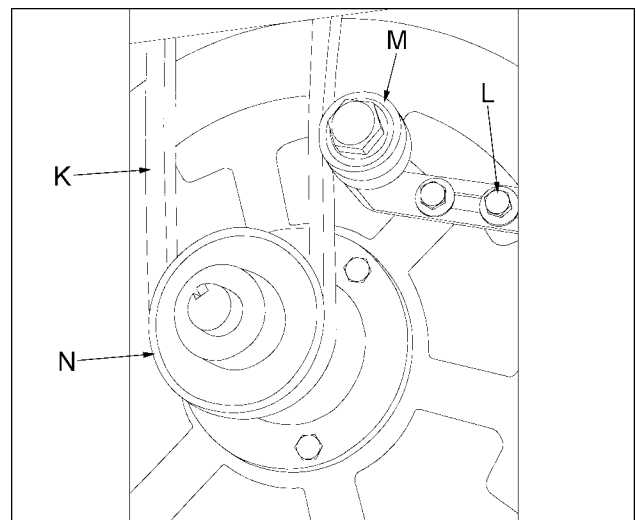

Fig. 3
5. Open the door in the cabinet to gain access to the belt. Make sure the belt (K, Fig. 3) is seated in the sanding disc pulley.
6. Loosen two bolts (L, Fig. 3) to move the tension roller (M, Fig. 3) out of the way. Place the belt on the fan pulley (N, Fig. 3) and rotate until the belt seats in the pulley. Tighten the tension roller against the belt as shown in Figure 3. The tension roller is adjusted properly when it takes the slack out of the belt.